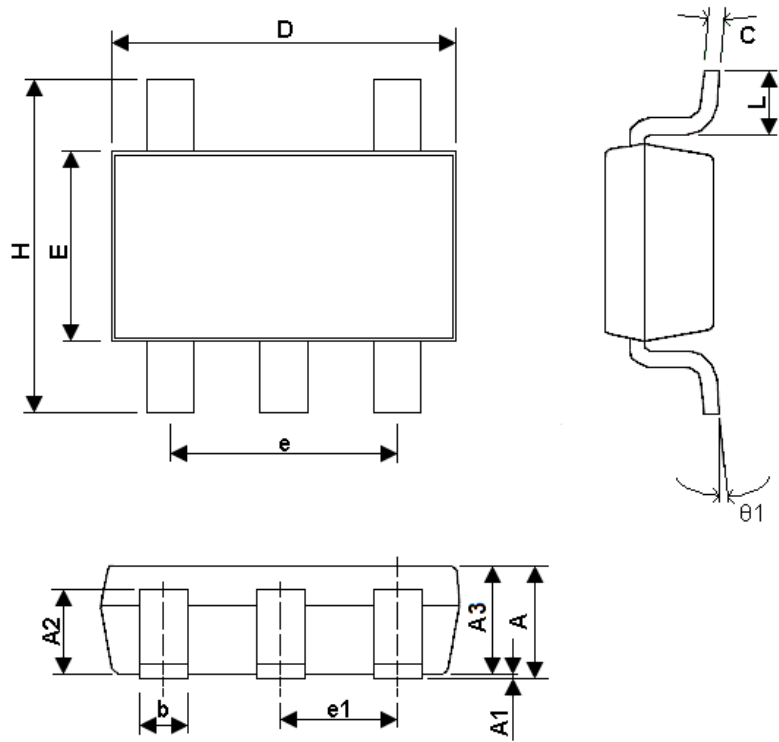

**Figure 3. Layout Guide**
- For the main current paths as indicated in bold lines in Figure 3, keep their traces short and wide.